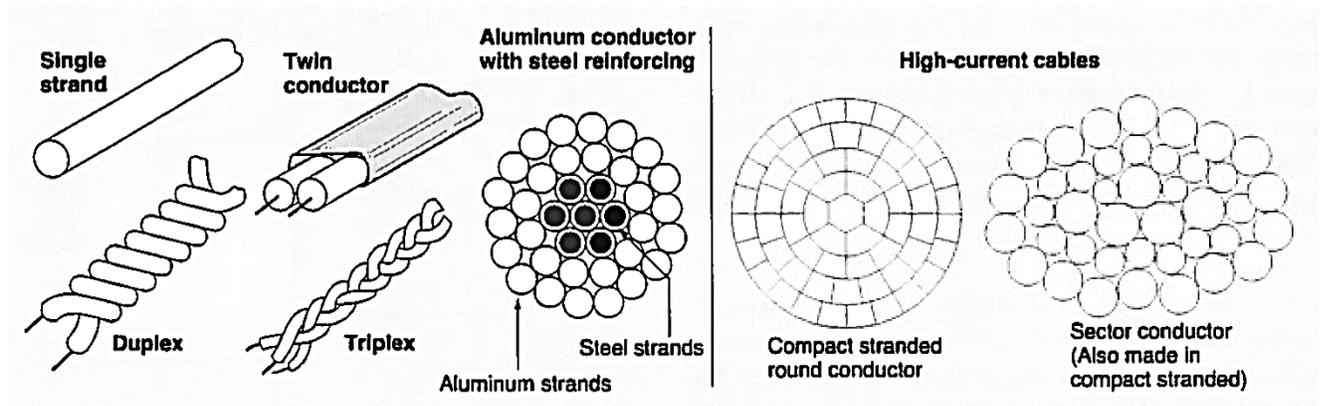

Figure 7.1: Wires and Cables
- 7-8 Wires and cables are the most common forms of conductors. They carry electric current through all kinds of circuits and systems. Wires and cables are made in a wide variety of forms suited to many different applications. Figure 7.1 shows some of the differences among wires and cables.